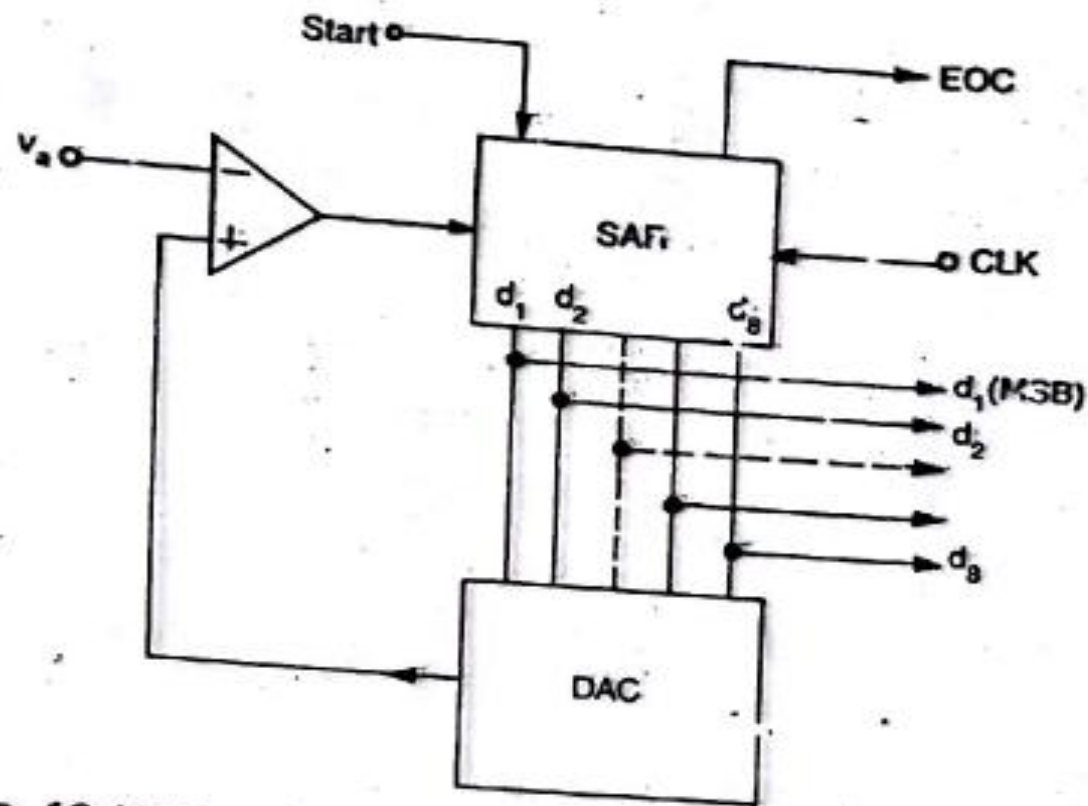

Fig. 10.13 Functional diagram of the successive approximation ADC
- For example, an 8-bit converter would require eight clock pulses to obtain a digital output. Figure 10.13 shows an 8-bit converter.